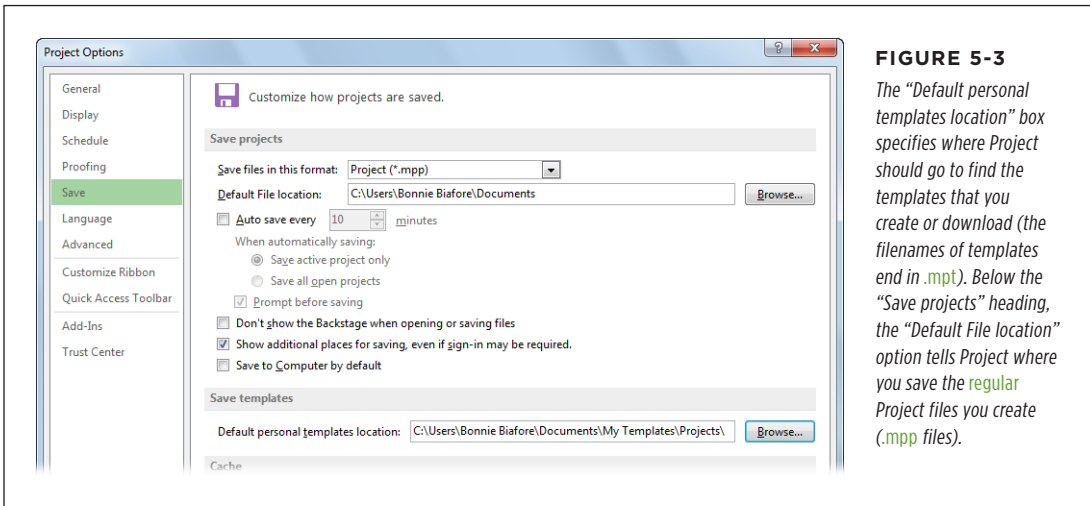

FIGURE 5-3
2. **On the left side of the dialog box, click Save. Head to the "Save templates" section, and, to the right of the "Default personal templates location" box, click Browse (Figure 5-3).**